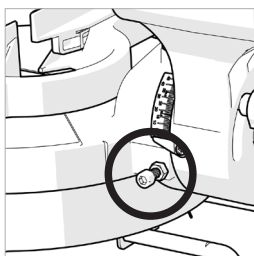

Fig. 17
- Use a Hex Key to adjust the Adjustment Screw in or out as required. **(Fig. 17)**